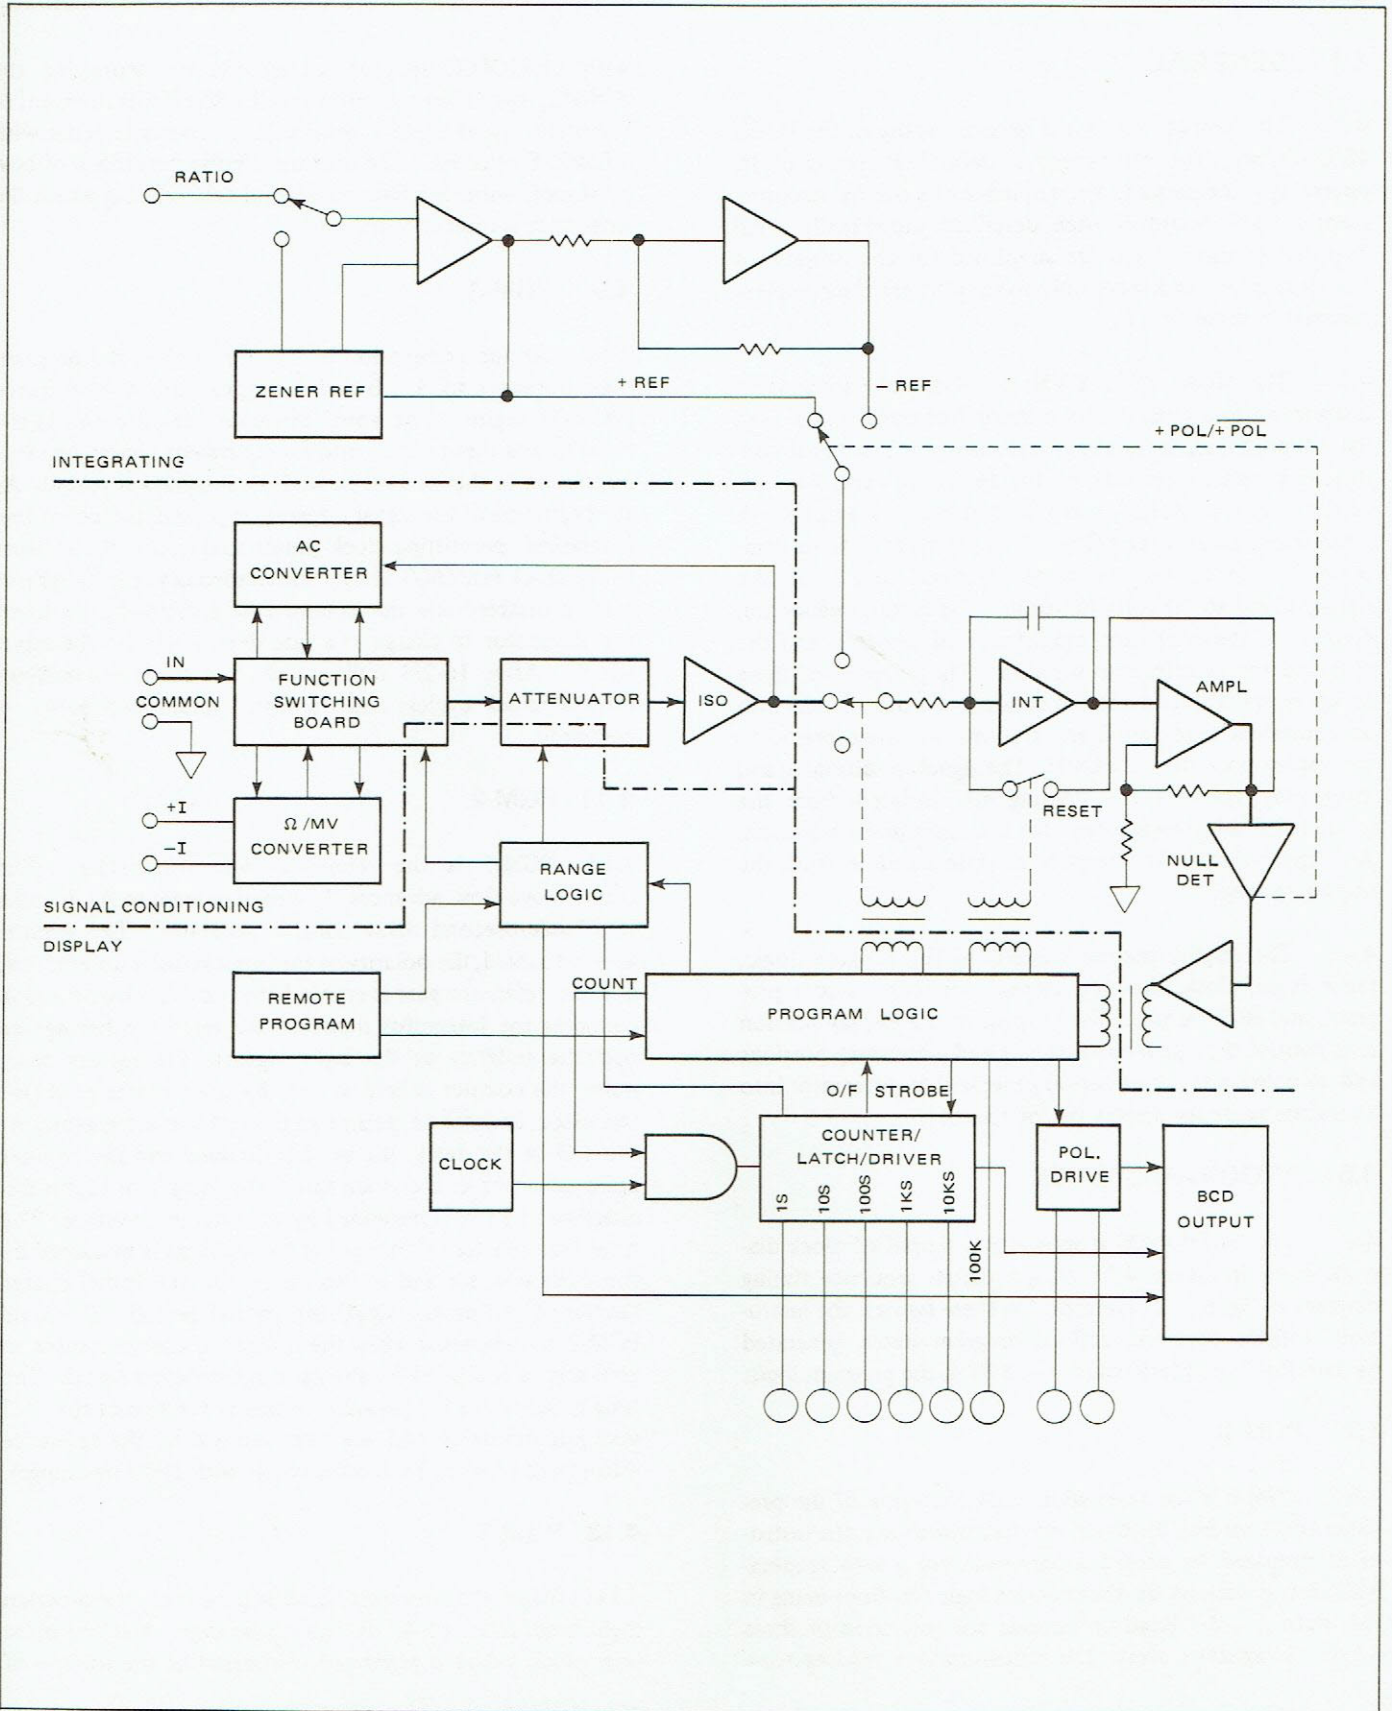
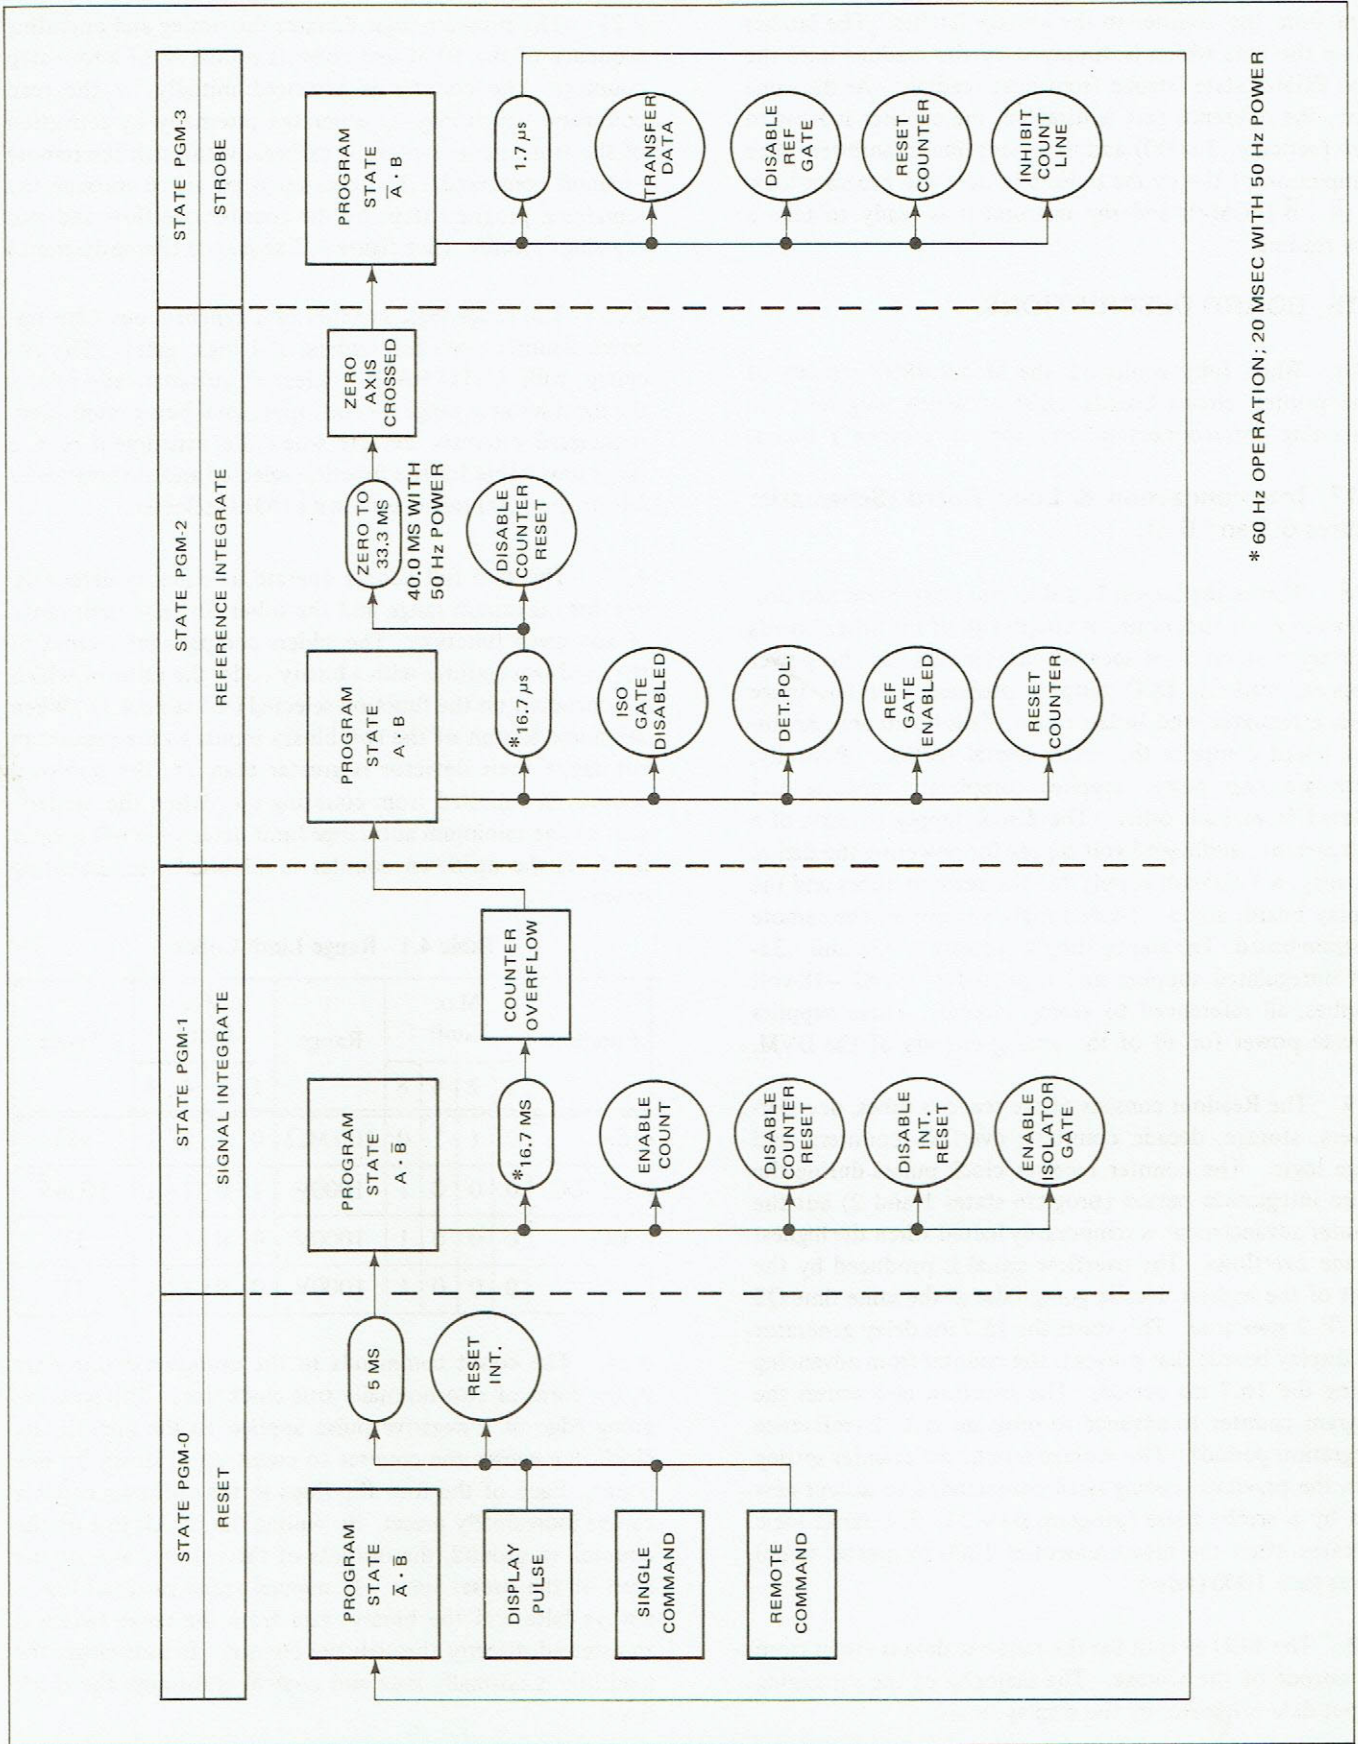
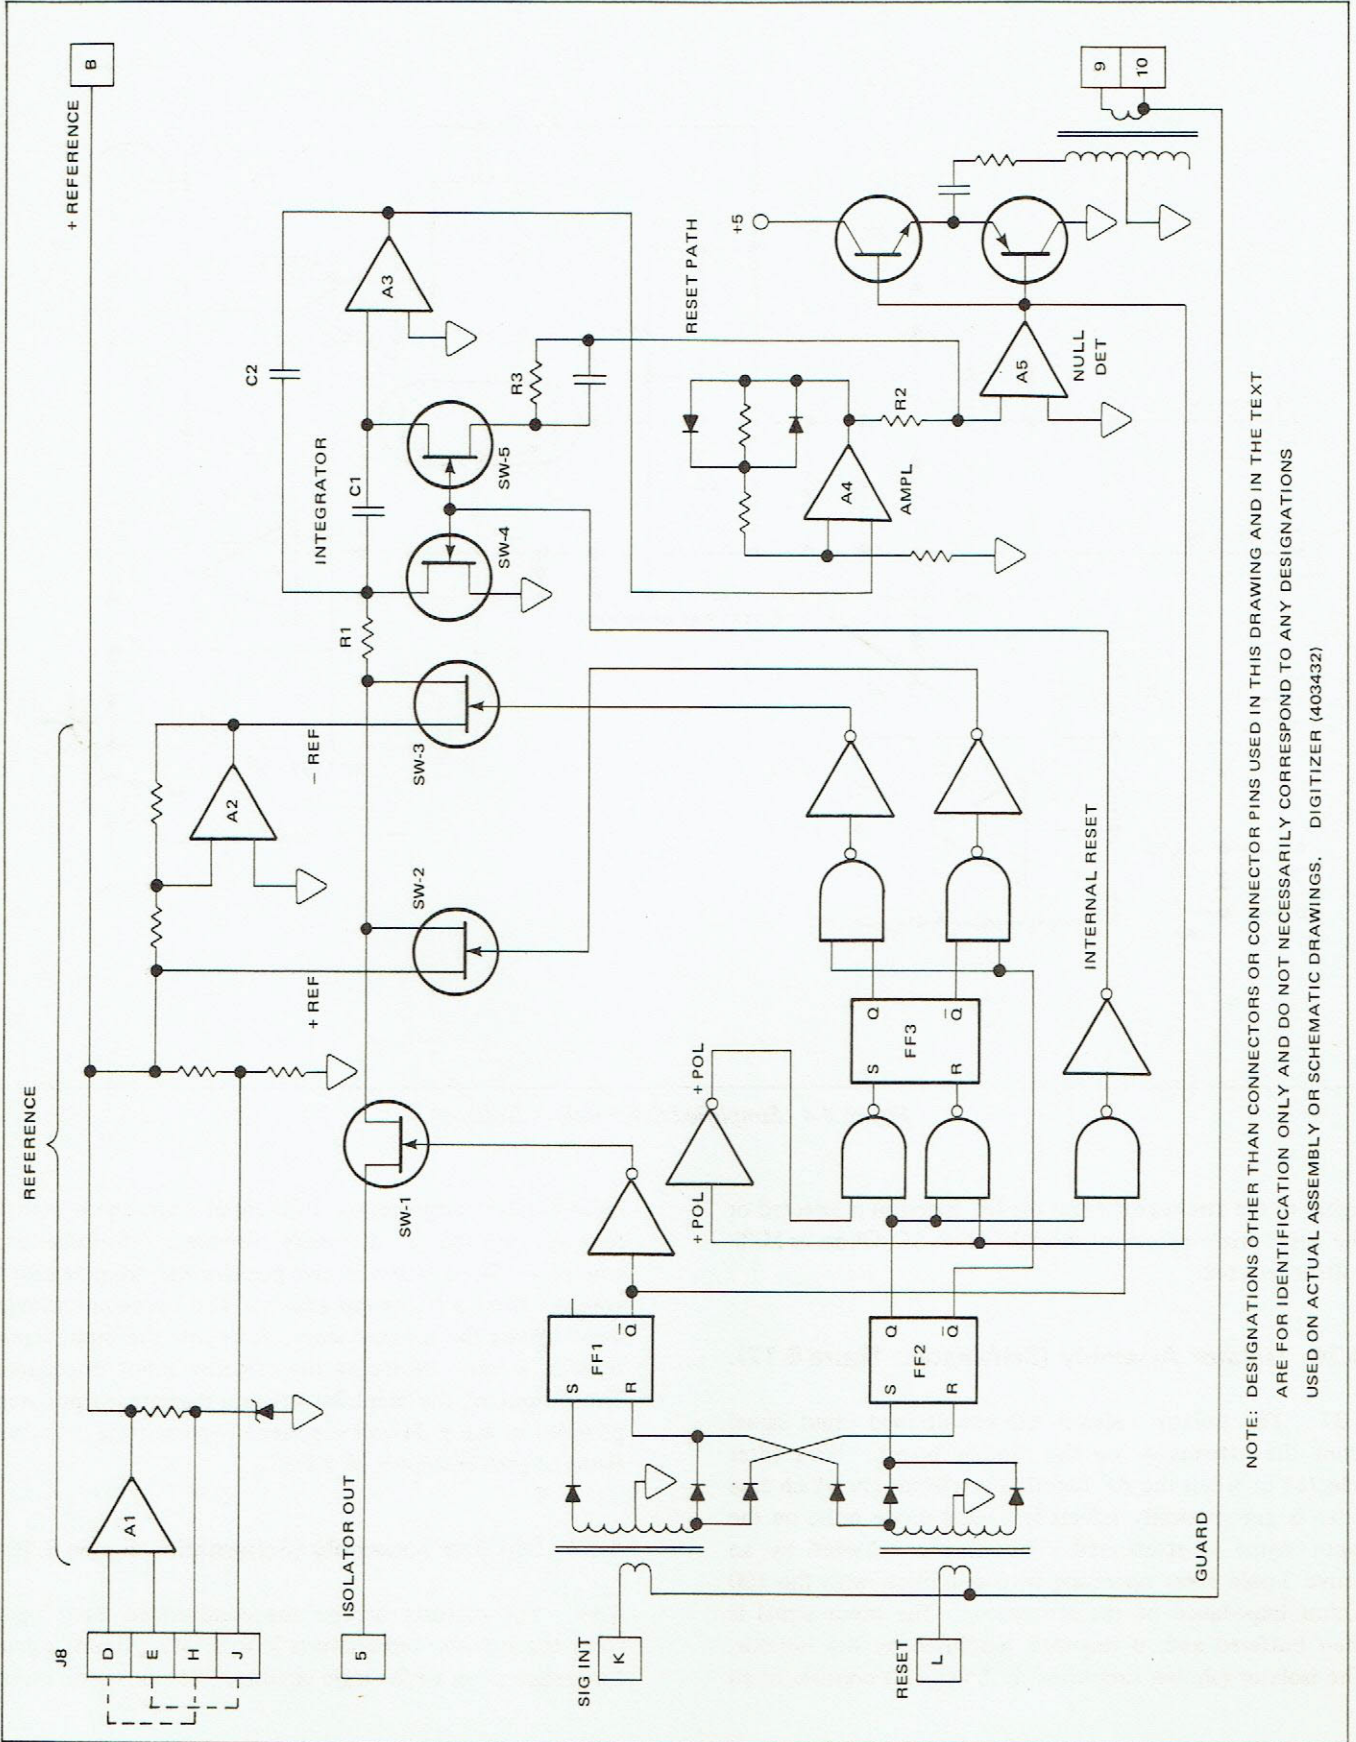

Figure 4.1 - Block Diagram 4800 DVM
Figure 4.2 - Sequence Timing Diagram
Figure 4.5 - Simplified Schematic - Digitizer
4.6 The Model 4800 is shown in a simplified block diagram form in figure 4.1 and a program sequence timing diagram in figure 4.2. Referring to these figures, the instrument follows four well-defined program states, generated by two flip-flops (designated A and B) in the program logic.
*For 50 Hz instruments; see figure 4.2
4.21 The program logic dictates the timing and operating sequence of the DVM and consists primarily of a four-step counter. The counter is advanced initially by the read command which may be generated internally by activation of the front panel switch or externally through the remote program command. The counter is advanced through the remaining program steps by the counter overflow and axis crossing detector. (See figure 4.2, sequence timing diagram.)
simplified in figure 4.5, consists of three switches, integrator, amplifier, null detector, output transformer, two demodulators, and decode logic. The operating sequence is determined by the program logic (see figure 4.2). The output of the isolator is applied to a FET (switch 1) connected to the input of the integrator. Two other FET switches (2 and 3) tie the integrator input to either the positive or negative reference supplies. All switches are off during the PGM-0 program step. The voltage level of the positive and negative reference supplies, (P1, P2) is 10 volts when ratio is not selected (internal reference). With ratio selected the reference supplies are equal to the value of the external reference input. Switching between ratio and internal reference takes place on the interconnection and logic board. The reference element and feedback resistors for the internal reference are located on the digitizer board.